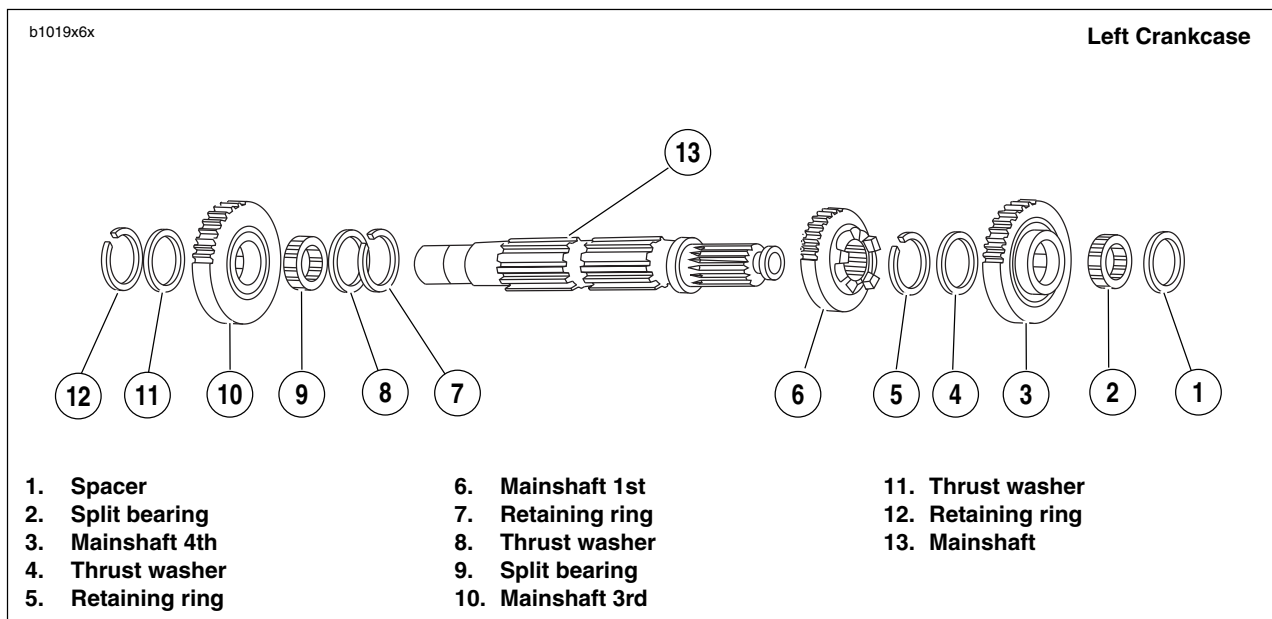

Figure 6-64. Transmission Mainshaft Assembly Once Removed from Left Crankcase/Disassembly
- See Figure 6-64. Remove spacer (1), mainshaft 4th gear (3), split bearing (2) and thrust washer (4) from the threaded end of the mainshaft.
- On the mainshaft, between mainshaft 1st gear (6) and mainshaft 3rd gear (10), use RETAINING RING PLIERS (Part No. J-5586) to expand retaining ring (7) and move next to mainshaft 1st gear along with thrust washer (8).
- Move mainshaft 3rd gear (10) as far as possible toward mainshaft 1st gear (6).
- Expand retaining ring (12) at opposite side of mainshaft 3rd gear (10) and slide off end of mainshaft with thrust washer (11).
- Remove mainshaft 3rd gear (10) and its split bearing (9).
- Slide thrust washer (8) off end of mainshaft.
- Expand retaining ring (7), which is next to mainshaft 1st gear (6), and slide off end of shaft.
- Remove mainshaft 1st gear (6).
- Expand retaining ring (5) and remove.